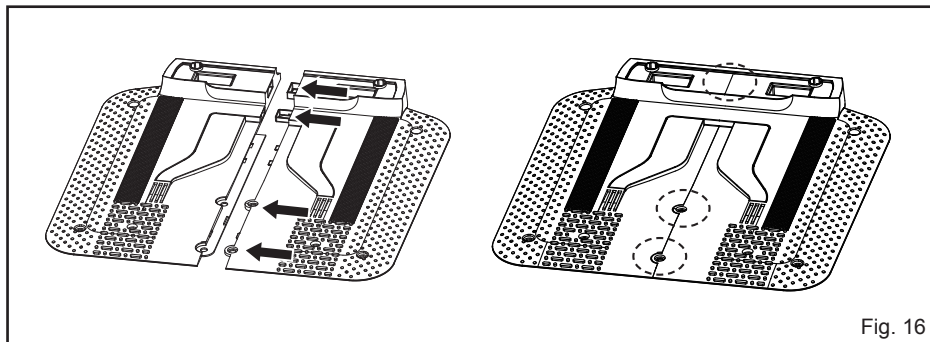

Fig. 16
- Connect the two base parts of the base station as shown. Ensure they click together firmly (Fig. 16).